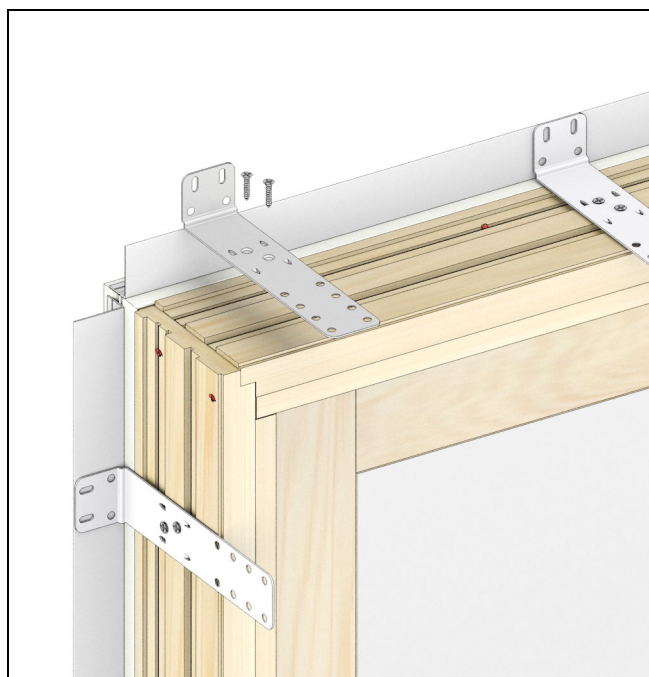

Figure 8
3. If you are installing your door with structural brackets or masonry clips, apply to the door frame once you are ready to place it in the opening permanently. Follow the instructions included with the brackets. See Figure 8. On IZ3 units place the structural brackets 6" from each corner and a maximum of 15" apart, with a minimum of 2 per side. Fasten with #8 x 5/8" screws to attach structural bracket to unit. Fasten #8 x 1 1/2" screw to attach bracket to buck.